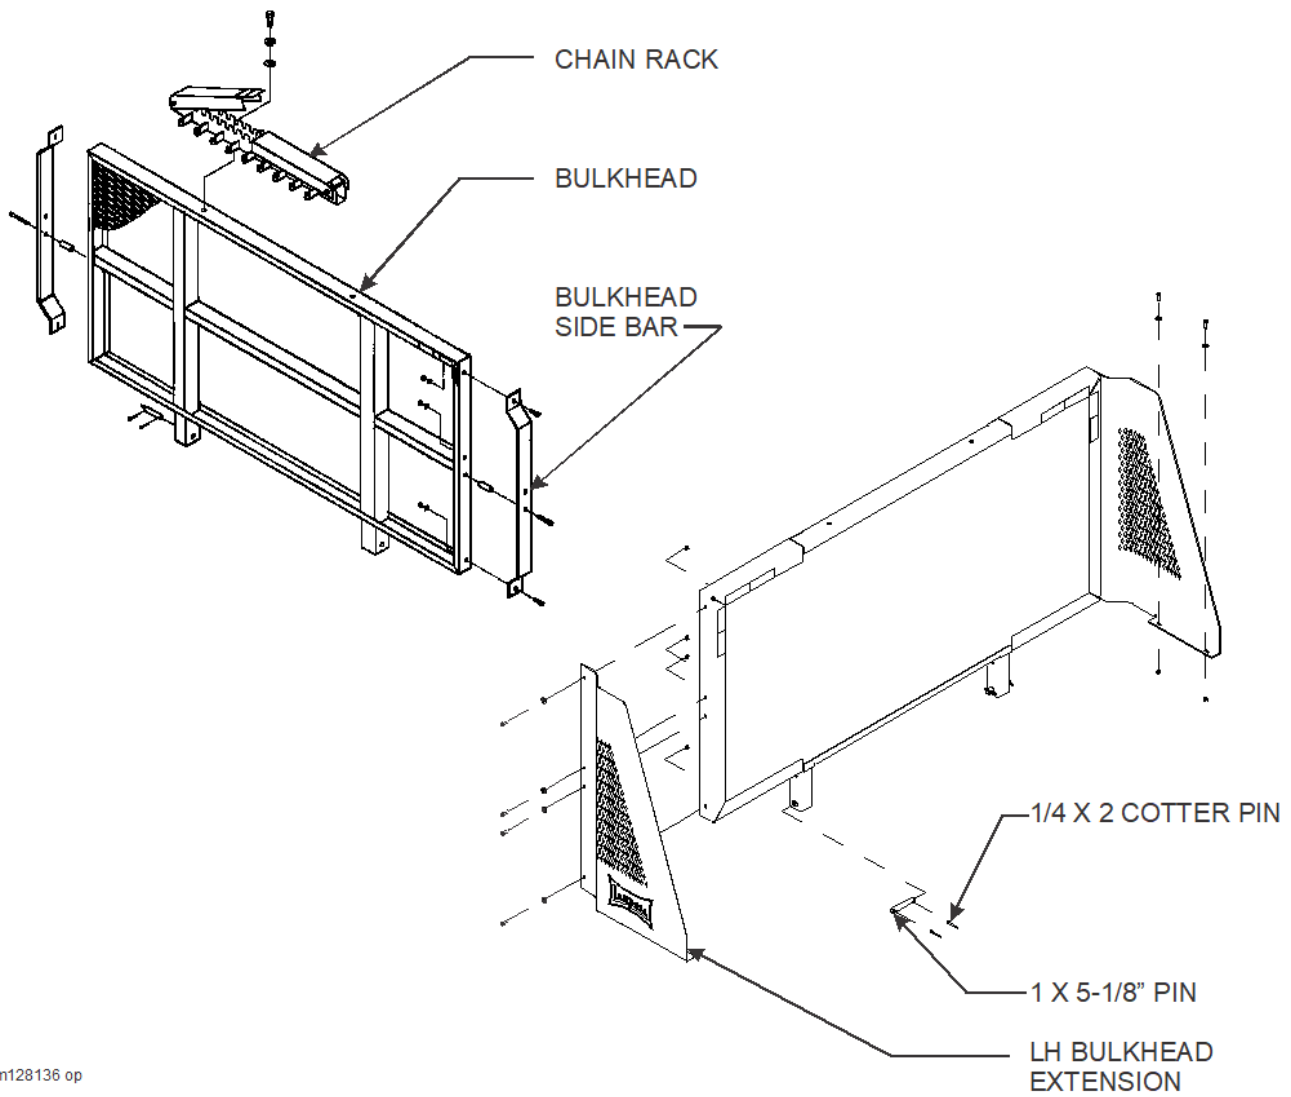

Figure 3-13: Front Extension/Bulkhead
2. To use the front extension as an extension, remove the front-most pin from the bracket. Lower the extension to a horizontal position. Replace the front-most pin in its new position. To use the extension as a bulkhead, simply return the extension to its original position **(See Figure 3-13.)**